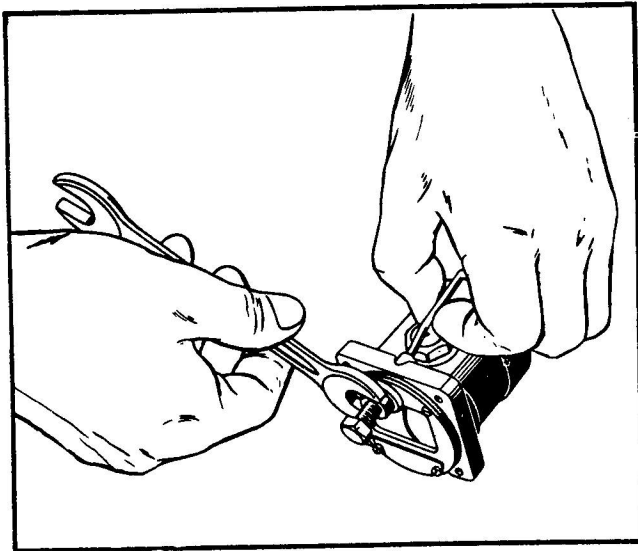

Figure 2-10. Installing Connector and Contact Assembly
x. Insert the connector and contact assembly into the hole in the compass mounting flange and, if the lamp socket end of the connector and contact assembly does not slide easily into the opening in the compass, screw the end of a 5/16-32 cap bolt, shown in figure 2-10, into the lamp socket and carefully tighten the nut on the bolt to pull the lamp socket through the compass flange. Be sure to use a soft plastic gasket under the nut to prevent marring the bezel. Also, when screwing the cap bolt into the lamp socket, stop just before the end of the bolt contacts the connector tube to avoid damaging it. By using the puller, the connector and contact assembly can be installed without danger of bending the tubing which connects the lamp socket with the connector at the back. Carefully position the connector, at the back of the connector and contact assembly (2, figure 2-4), on the expansion unit assembly (20), and slide the connector plate insulator (5) between the expansion unit and the attaching flange on the connector assembly. Install the two bolts (3) with the insulating grommet (4) on each bolt and tighten securely.